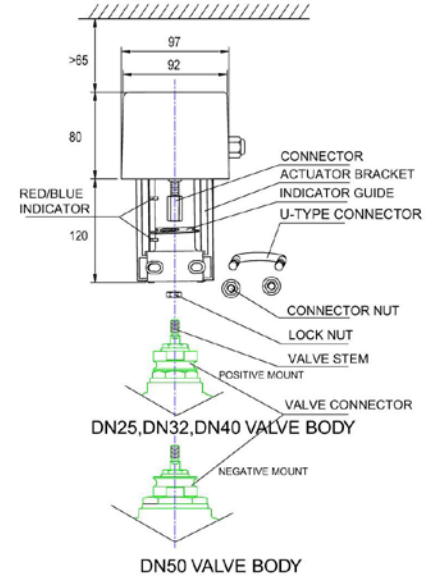

Fig.2
1. Tightly screw the valve connector on the valve body. Please pay attention to the direction of the connector. (See Fig. 2)
4. Lift up the valve stem and put the lock nut and indicator guide onto it, then rotate the connecting rod of the actuator and let it rotate onto the valve stem. Use spanner to lock the locknut after adjusted the position. (See Fig. 2, the actuator have been set to fully-close position for the valve body, if no special requirements, it should not be changed.)
5. Give priority to vertical installation and remain enough room for screw off the actuator when repair the valve body. (See Fig.2)